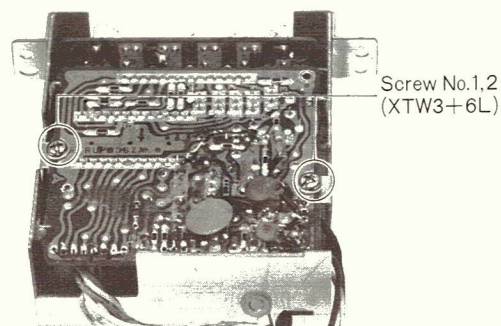

Fig. 9
3. Remove the two (2) screws (nos. 1 & 2) for the PC board, as shown in fig. 9.